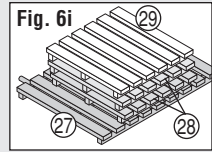

Fig. 6i
- Glue Bottom Skid (27), Middle Skids x2 (28) and Top Skid (29). Watch placement, skids should look stepped (Fig. 6i).